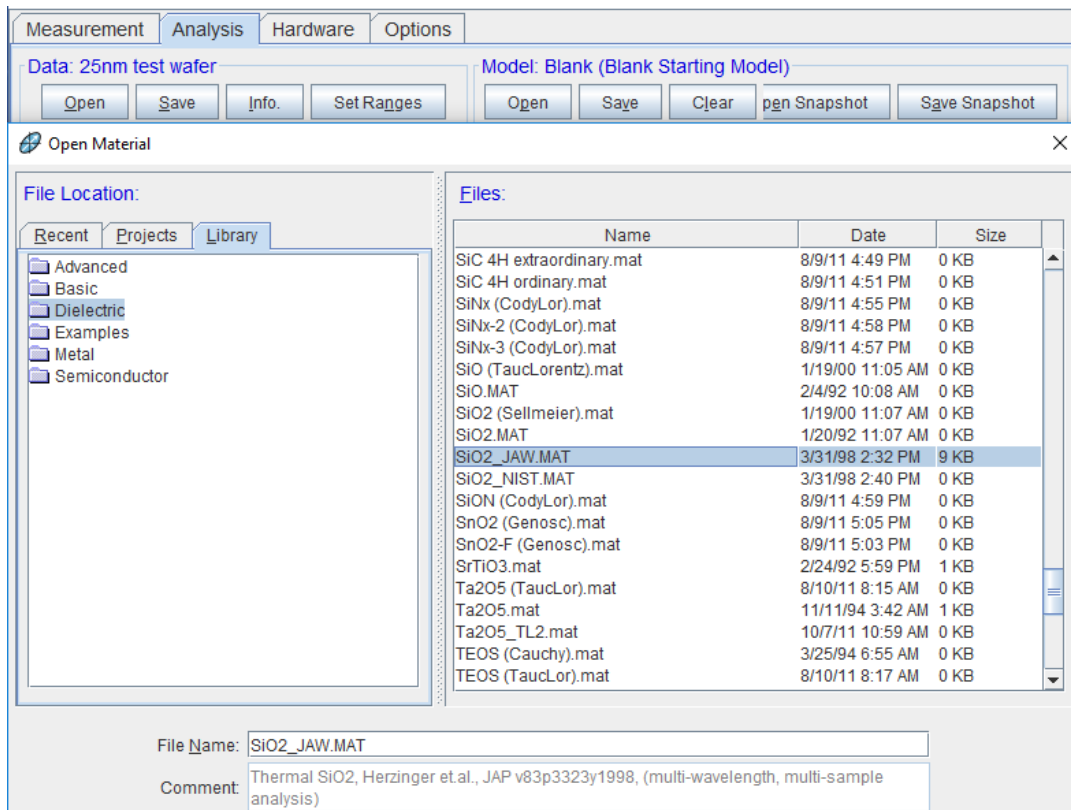

Figure 6: for step 8.3 and 8.4
- 8.3) Choose the material of the film from the library. One material may have several files sourcing from different references. Please refer to the comment of each file (Figure 6).